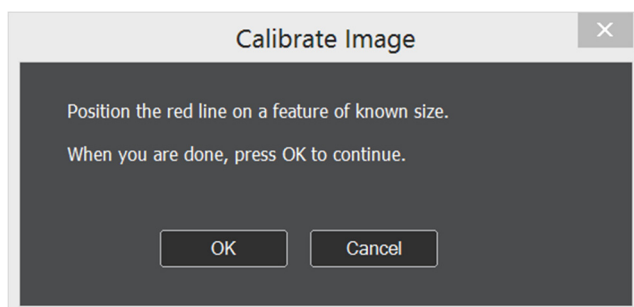

Figure 14: Magnification calibration instructions.
- 2 Follow the instructions on screen, as shown in Figure 14, and a red line will appear on the image.